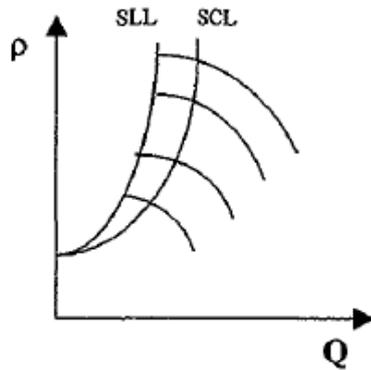

Fig.1a
The equation (9) defines the "SLL" shape, on the plane of compression ratio (ρ) versus flow (Q), represented by a parabola which has the minimum located in $\rho = 1$ and $Q = 0$, Fig 1a .
The fig. 1a represents a theoretical performance characteristic for a single stage compressor (one impeller only) , while the Fig. 1b represents a typical characteristic for a multistage compressor . As we can see in the latter conditions the antisurge control line can not be realized utilizing a parabola without cutting a large zone of compressor operability .